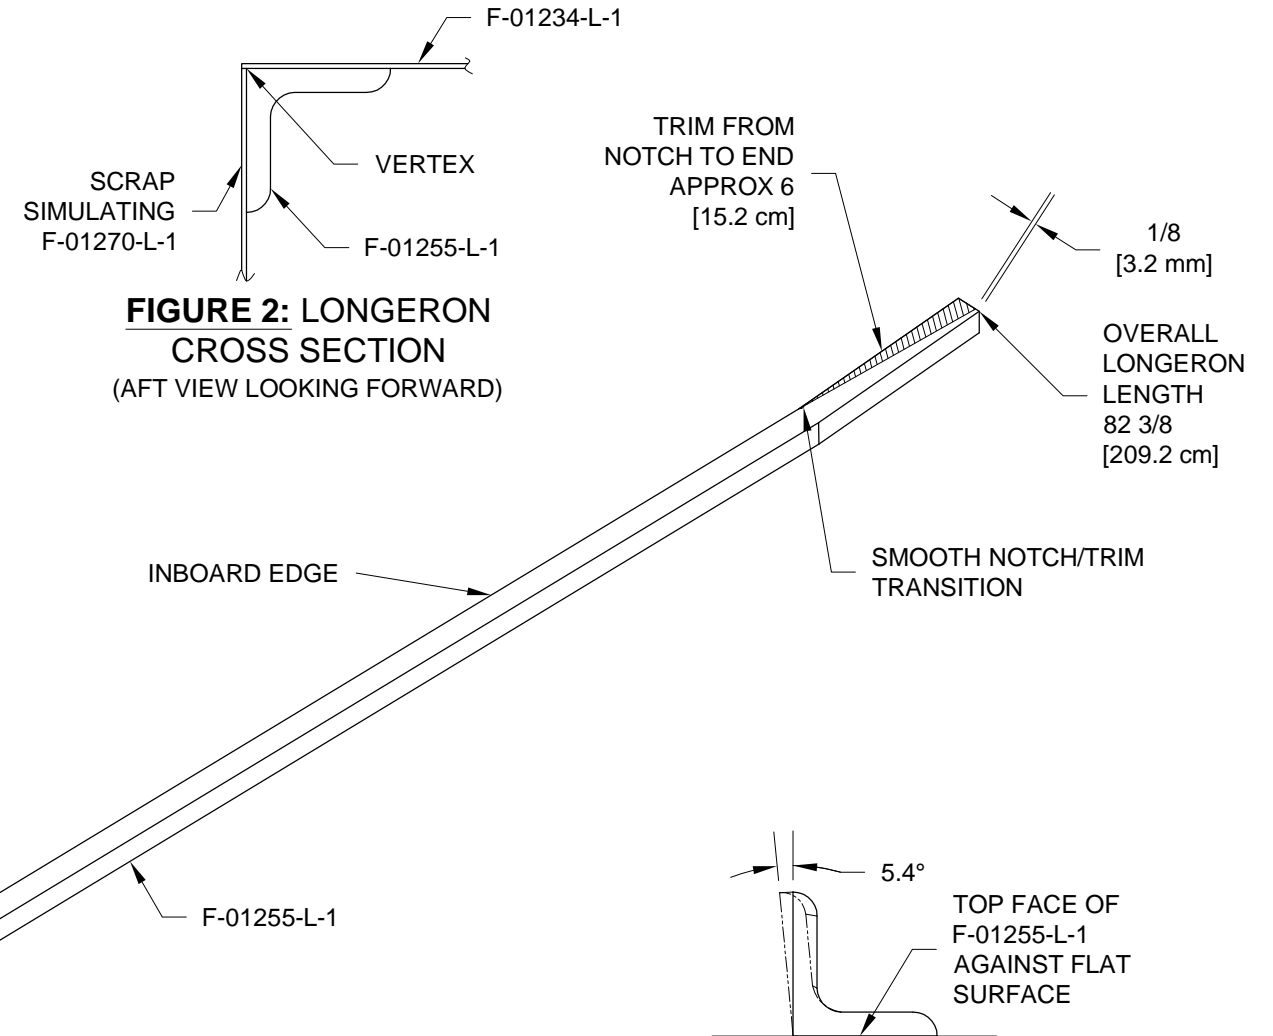

FIGURE 2: LONGERON CROSS SECTION (AFT VIEW LOOKING FORWARD)
Step 6: Position F-01234-L-1 and F-01255-L-1 as shown in Figure 2. Use a scrap piece of .025 thick aluminum to simulate F-01270-L-1. F-01234-L-1 should overhang F-01255-L-1 by .025 inches.
Step 5: Rivet F-01205D and F-01205E onto the F-01205A-1 as shown in Figure 2 (only the right side is shown, mirror what is shown for the left).